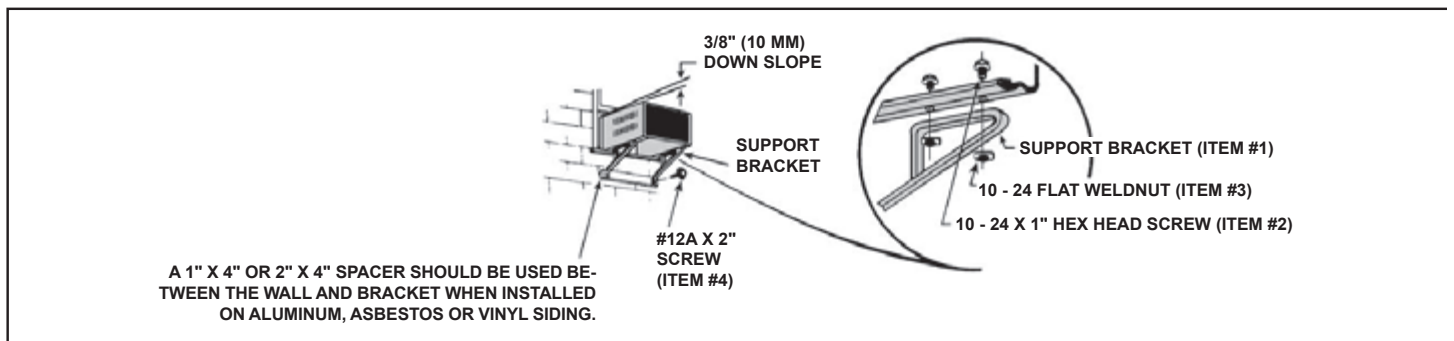

Figure C.5.3
STEP 6. OUTSIDE SUPPORT MOUNTING: Assemble the support brackets (Item #1) to the bottom rails of the cabinet with four (4) 10-24 1" long screws (Item #2) and four (4) 10-24 flat nuts (Item #3). Adjust the support brackets to bring the bottom pads in contact with the wall surface. (See Figure C.5.3)
A 1" x 4" or 2" x 4" SPACER SHOULD BE USED BETWEEN THE WALL AND THE SUPPORT BRACKETS WHEN INSTALLED ON ALUMINUM OR VINYL SIDING). Drill 5/32" (4 mm) dia. pilot holes, and secure the brackets to the wall with two (2) #12A x 2" long screws (Item #4). Adjust the support brackets to provide an approximate 3/8" (10 mm) down slope towards the outside for drainage. Tighten all screws. (See Figure C.5.3).